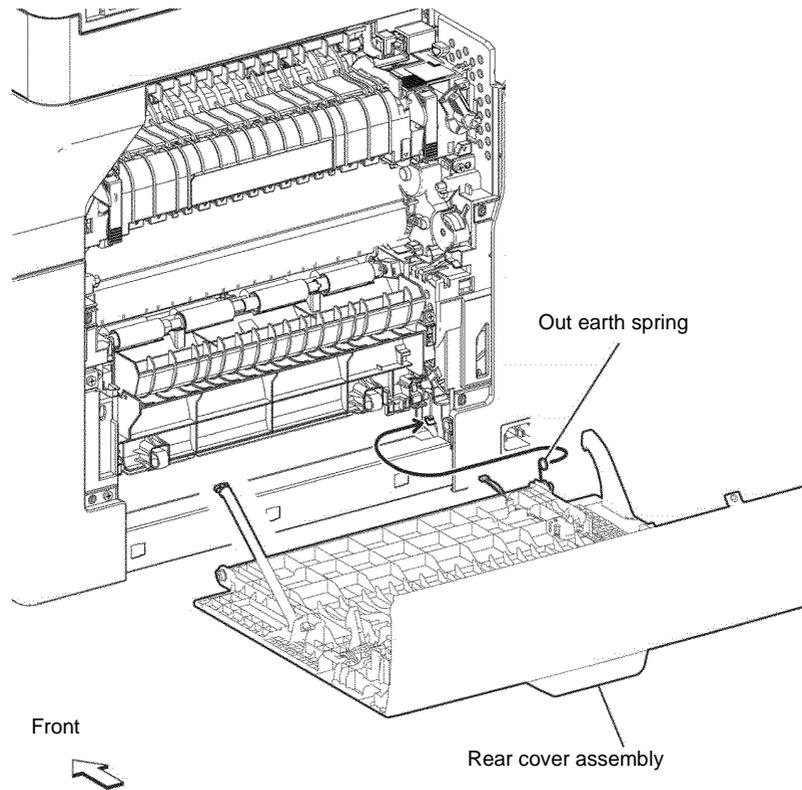

Figure 2 Rear cover assembly installation
2. When installing the rear cover assembly, ensure that DTS out earth spring is set in the hook of the printer, Figure 2.